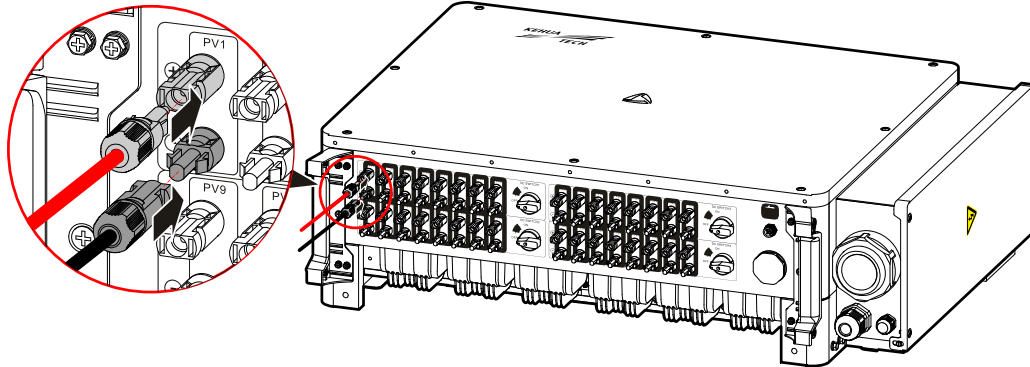

Figure3-44 Connect PV connectors
- Step 3 Insert the positive and negative connectors into the MPPT "+" and "-" terminals on the bottom of the inverter respectively (as shown in Figure3-44). When you hear a click, it means the connection is completed.